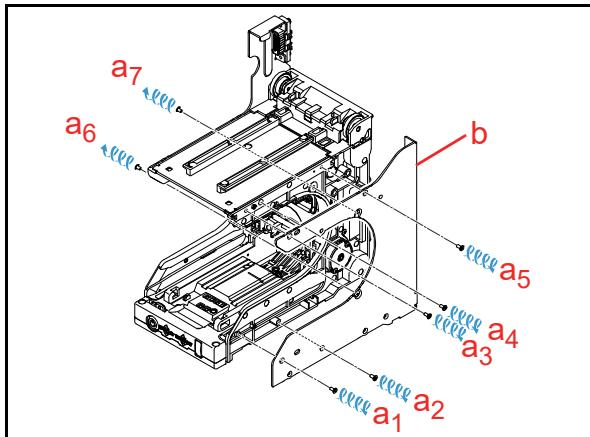

**Figure 4-12 CPU Board Removal 2**
3. Slightly lift up the CPU Board (Figure 4-12 a) to unplug the four (4) Connectors (Figure 4-12 b1 through b4).